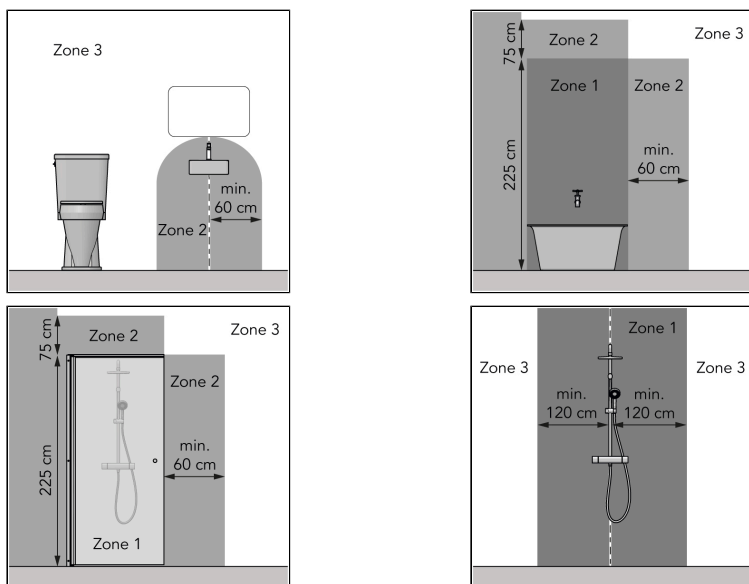

Figure 17.
- in zone 3 of a toilet room or bathroom with a bath, shower with screen or shower without screen, see Figure 17;